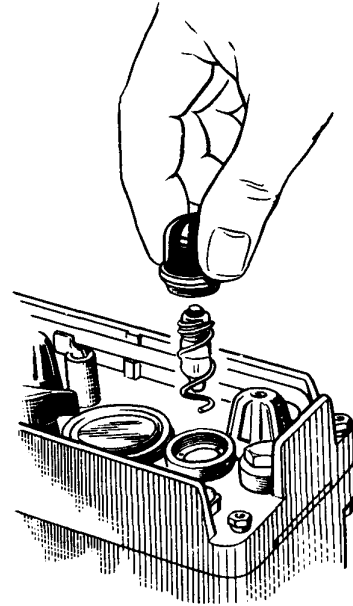

FIG. 1
- (b) Remove the defective lamp and coil spring (see Fig. 1).